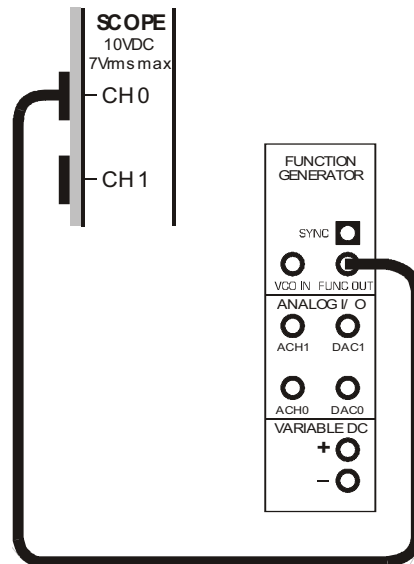
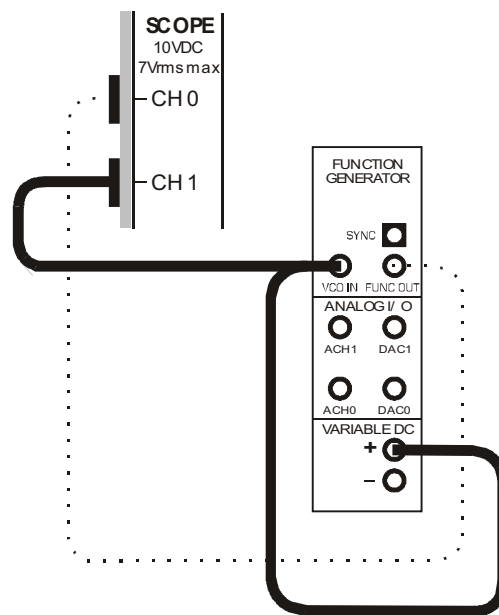

Figure 2
Figure 3
16. Connect the set-up shown in Figure 2 below.
19. Modify the set-up as shown in Figure 3 below.
The set-up in Figure 3 builds on Figure 2 so don't pull it apart. Existing wiring is shown as dotted lines to highlight the patch leads that you need to add.